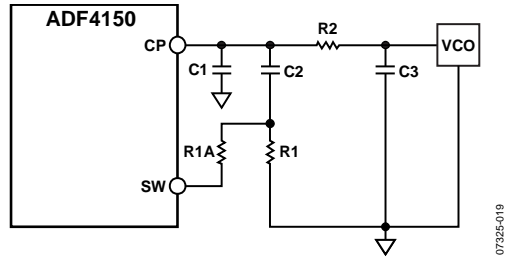

Figure 24. Fast-Lock Loop Filter Topology—Topology 2
- An extra resistor (R1A) is connected directly from SW, as shown in Figure 24. The extra resistor is calculated such that the parallel combination of an extra resistor and the damping resistor (R1) is reduced to $\frac{1}{4}$ of the original value of R1 (see Figure 24).